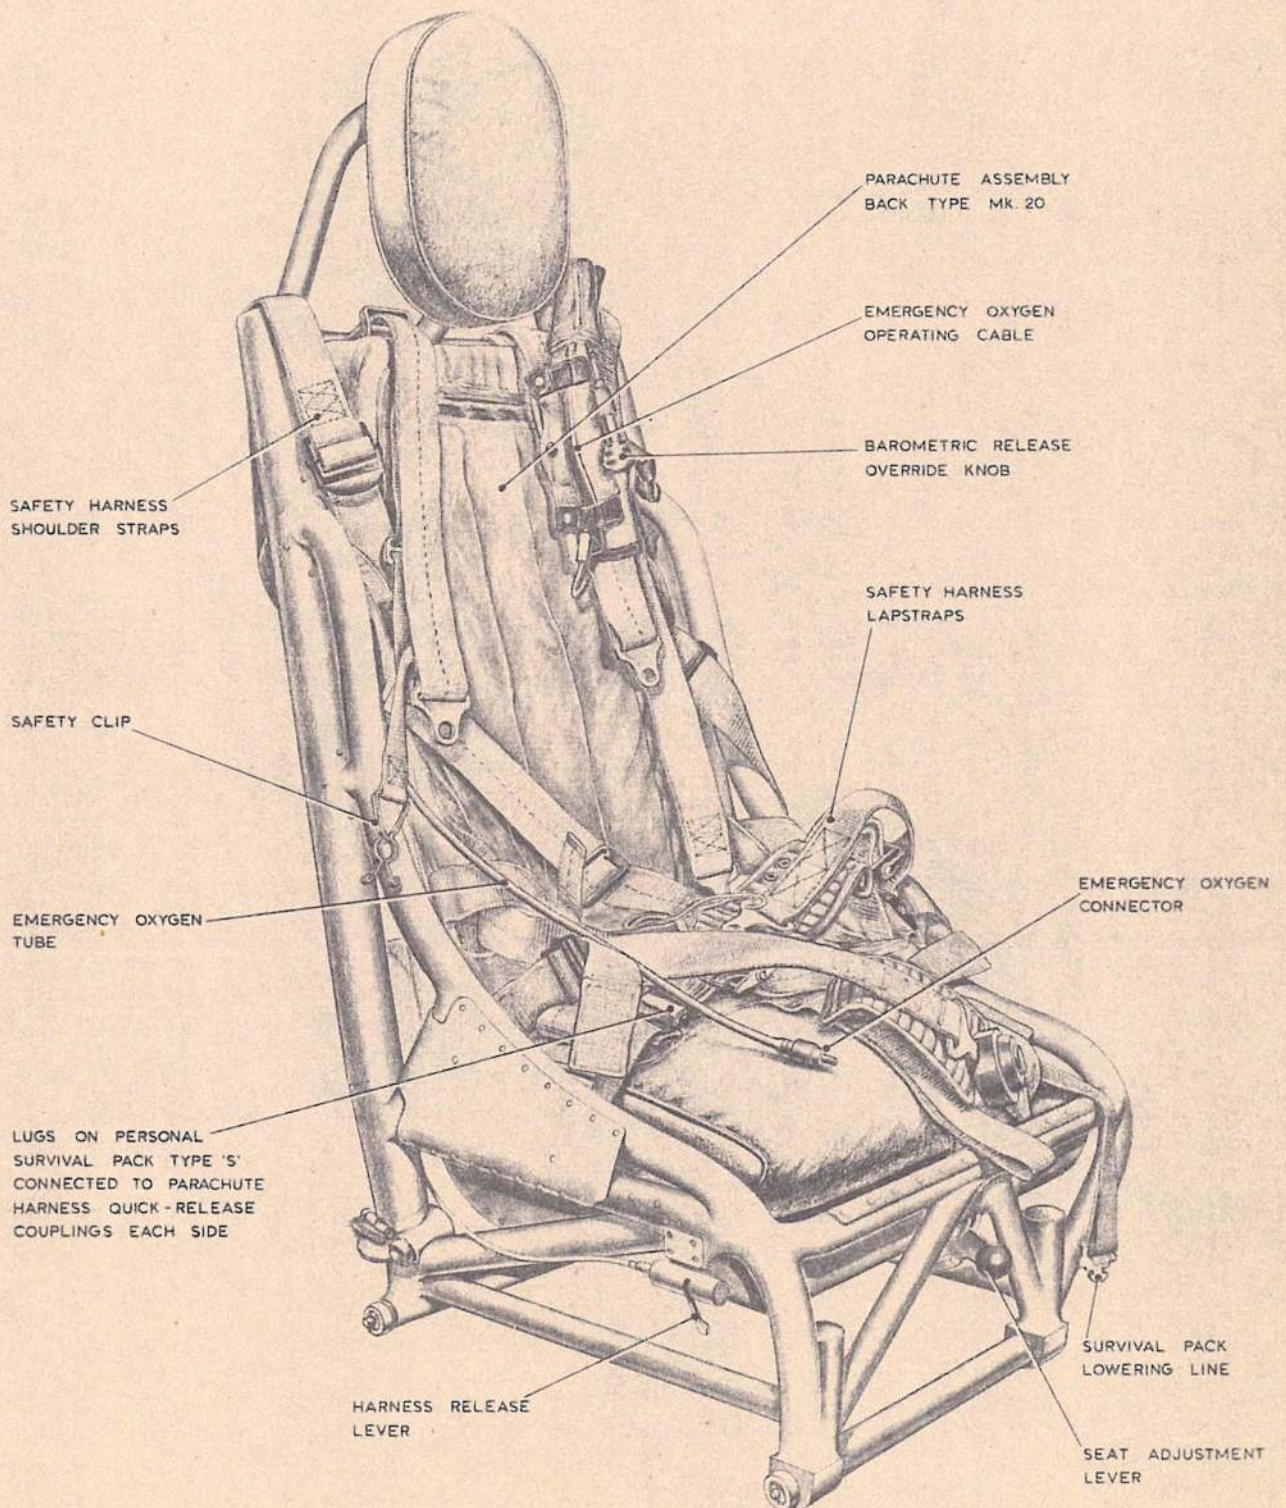

Fig. 7. The static seat equipped
21. To equip each of the static seats proceed as follows (fig. 7): -